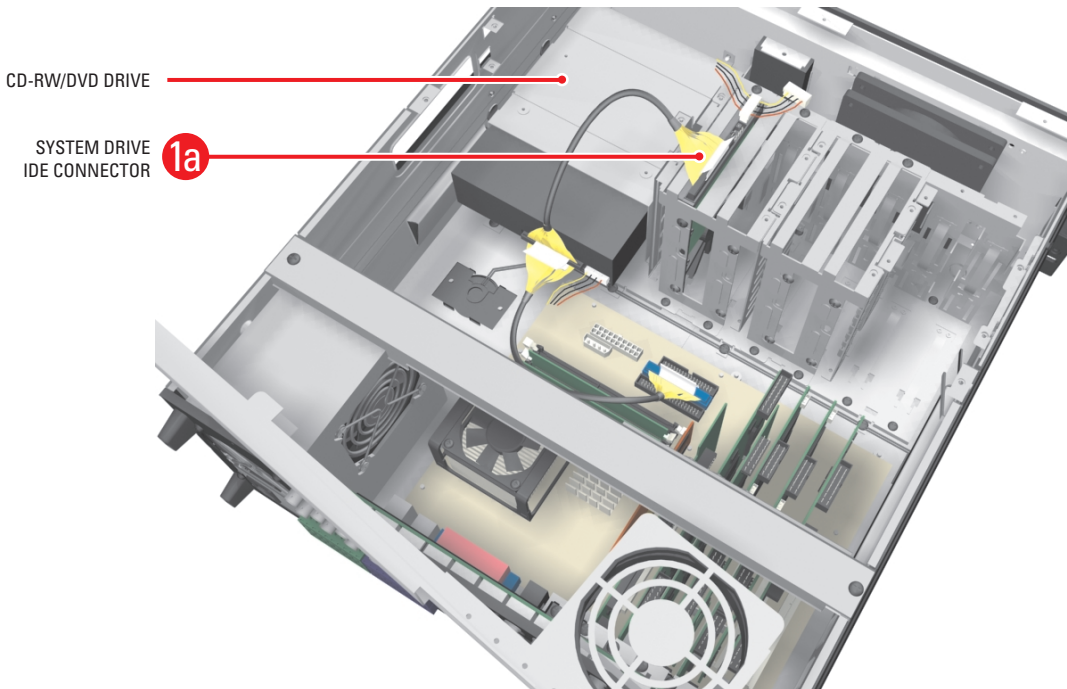

Figure 8. Removing the IDE Data Cable
- a. Carefully pull the plastic tab of the connector away from the hard drive. Refer to Figure 8.